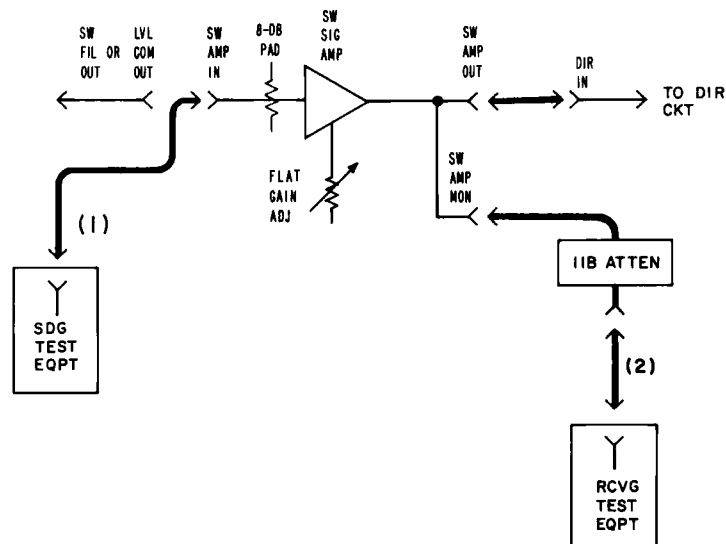

Fig. 2—Patching Arrangement to Test Switching Signal Amplifier Gain
| 7    | Connect the STE to the SW AMP IN jack [patch (1), Fig. 2 ].                                                                                                                                                                   |
| 8    | Connect the RTE through the 11B attenuator to the SW AMP MON jack on the mounting strip in the associated J68820 bay [patch (2), Fig. 2].                                                                                     |